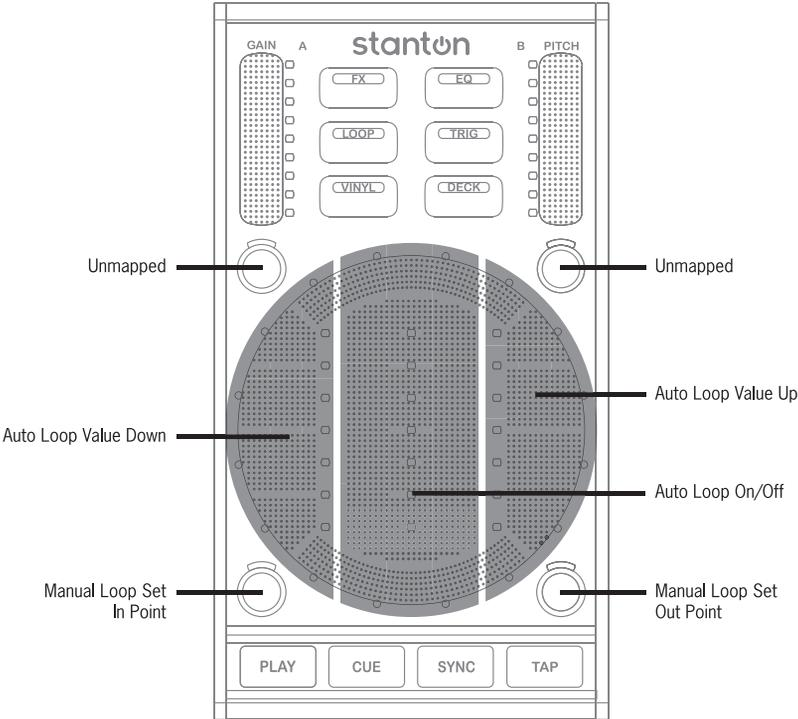

Figure 6.22
6.3.1.3 Loop Mode (Figure 6.22)